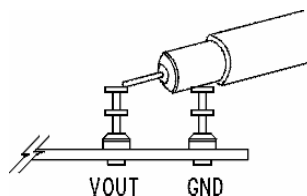

Figure 2. Measuring Input or Output Voltage Ripple
- When measuring the input or output voltage ripple, care must be taken to avoid a long ground lead on the oscilloscope probe. Measure the input or output voltage ripple by touching the probe tip directly across the Vin or Vout and GND terminals. See Figure 2 for proper scope probe technique.